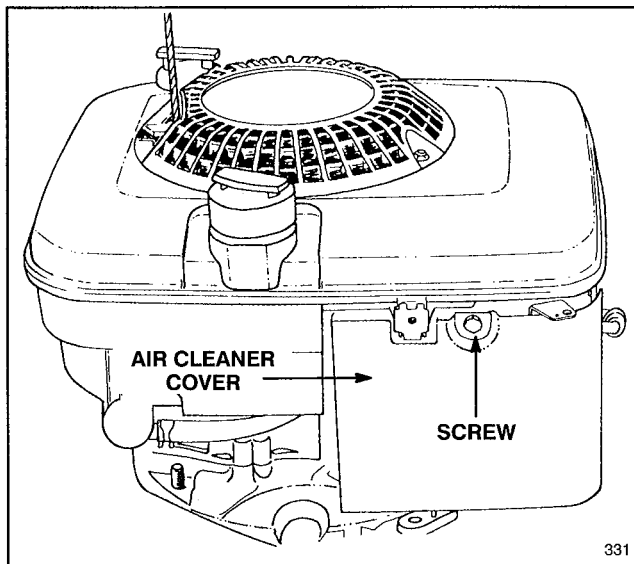

Figure 12
2. Remove screw securing air cleaner cover to engine (Fig. 12). Tilt cover down and clean thoroughly.